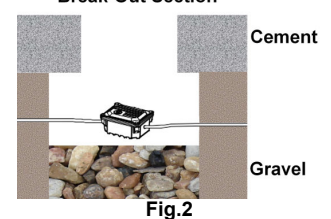

Fig.2
1. Ground Construction requirements: (Fig.2)
2. Cut installation hole and lay power cable. (Fig.2)
3. Establish location of waterproof wiring box (provide by others). (Fig.2)